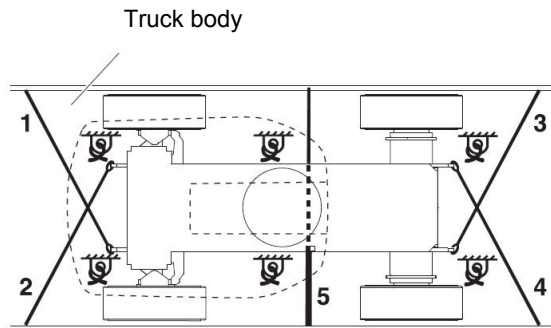

Figure 10-3 Schematic diagram of chassis fixing
- 5) Ensure the chains or belts have sufficient load strength, and use at least 5 chains. Adjust the rigging to prevent damage to chains, as shown in Figure 10-3.